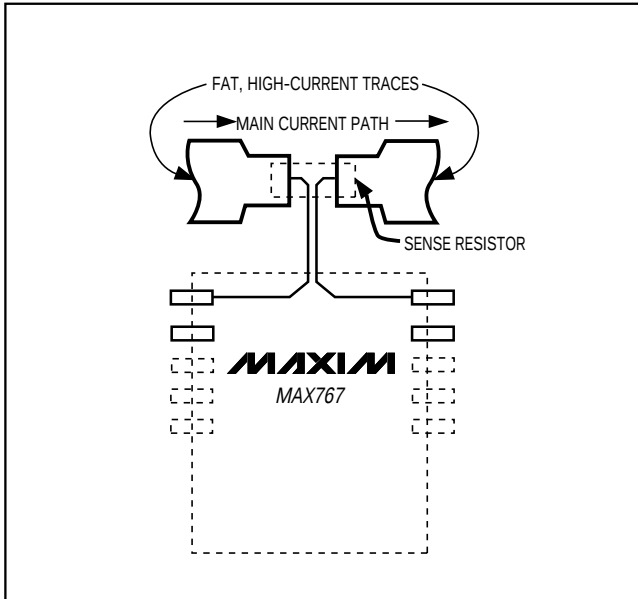

Figure 2. Kelvin Connections for the Current-Sense Resistor
2. Because the sense resistance values are similar to a few centimeters of narrow traces on a printed circuit board, trace resistance can contribute significant errors. To prevent this, Kelvin connect CS and FB to the sense resistor; i.e., use separate traces not carrying any of the inductor or load current, as shown in Figure 2. These signals must be carefully shielded from DH, DL, BST, and the LX node. Important: place the sense resistor as close as possible to and no further than 10mm from the MAX767.
Since the sense-resistance values are similar to a few centimeters of narrow traces on a printed circuit board, trace resistance can contribute significant errors. To prevent this, Kelvin connect the CS and FB pins to the sense resistors; i.e., use separate traces not carrying any of the inductor or load current, as shown in Figure 2.